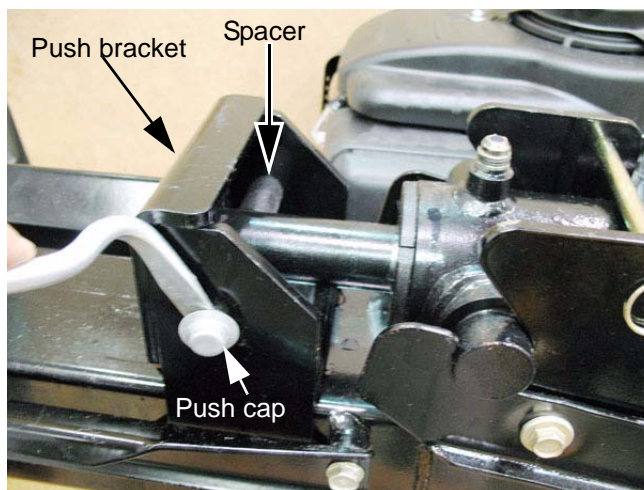

Figure 4.21
- 5.2. Pry-off and dispose-of the push cap that secures the pin connecting the push bracket to the ram. See Figure 4.21.
- 6.5. Pry-off the push cap that holds the pin connecting the push bracket to the ram. See Figure 4.21.